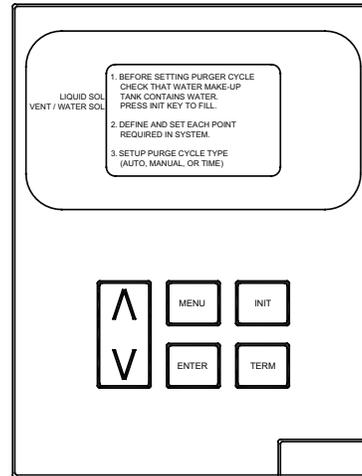

Figure 9: Control Panel - Displaying Initial Startup Screen
- 13. Supply power to the purger and wait for the start up screen to display. Follow the instructions on the display screen and familiarize yourself with the control panel's interface, see Figure 9.